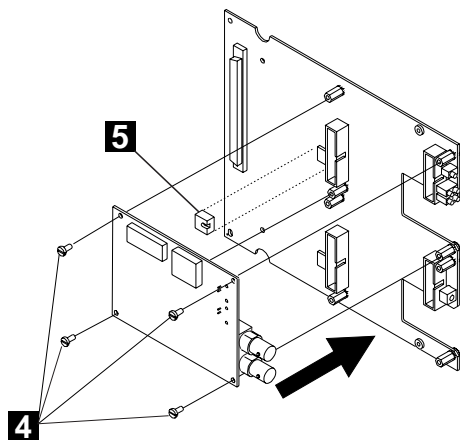

Figure 15. Attaching the I/O Card
- 4 Attach the I/O card to the motherboard using the four screws provided (4 in Figure 15).